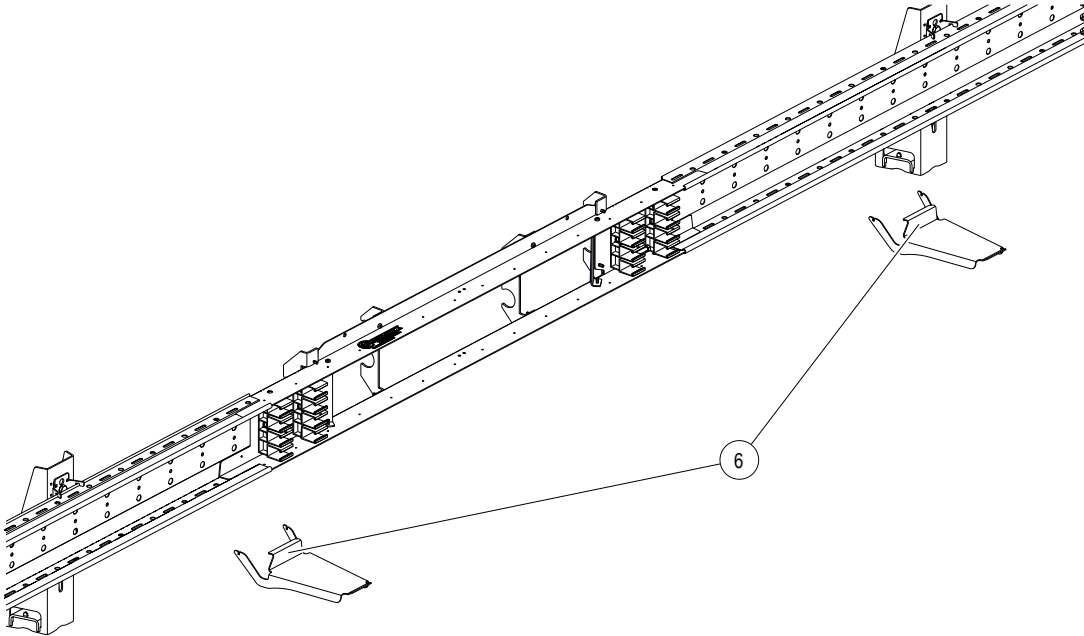

Fig. 40: Hook auxiliary console (6) onto the ProShell support profile
1. Hook auxiliary consoles (6) onto the ProShell support profile rails (see Fig. 40).